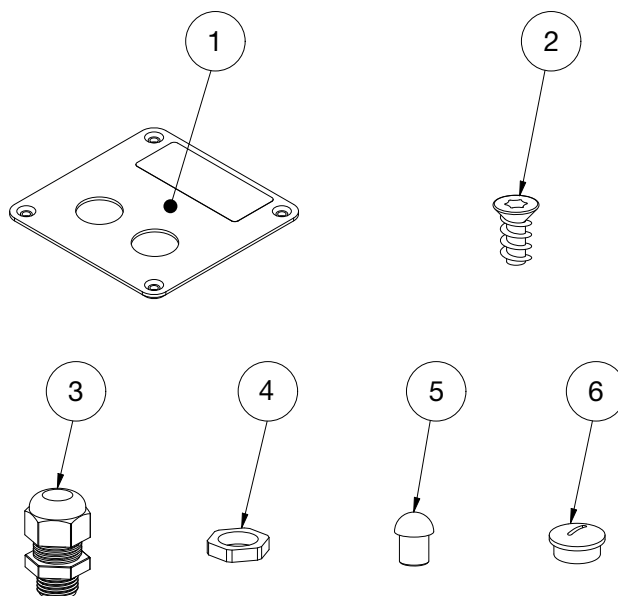

Figure 3.1 - Components
Please note that you can use the cable gland (item 3 - Figure 3.1) in combination with cables from a diameter of $\varnothing 6.0$ mm up to a diameter of $\varnothing 12.0$ mm.
Mount the cable gland and lock nut (items 3 and 4 - Figure 3.1) on the left or right, depending on use.
Mount the sealing plug (item 5 - Figure 3.1) on the left or right depending on use.